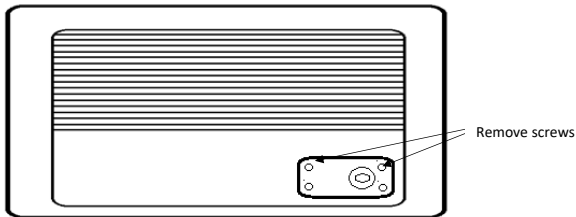

Fig. 1
- Remove the four screws on the access plate at the rear of the fitting to expose the terminal block (see Fig. 1)